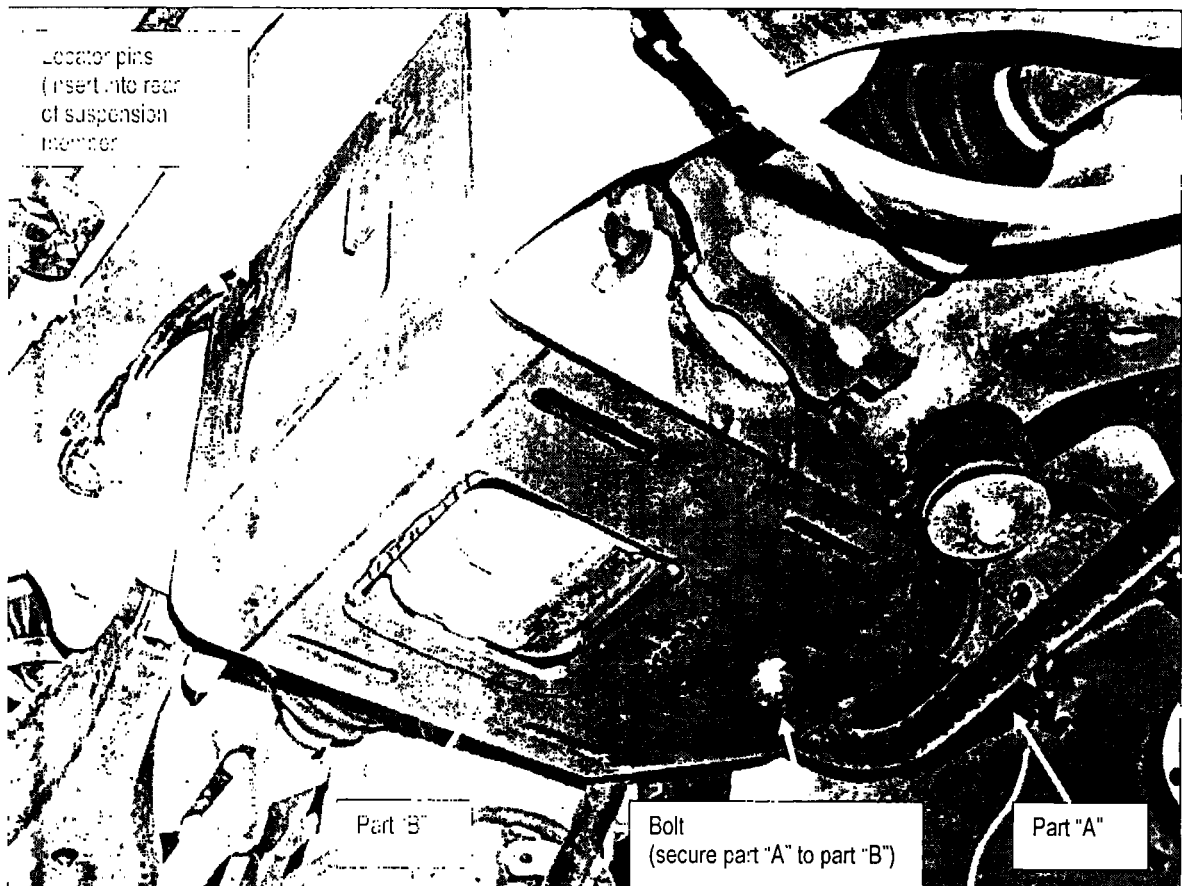

Figure 25
- b. Slide part "B" of the adapter tool over the rear of part "A". Then, insert the locator pins at the upper corners of the tool into the rear suspension member (see Figure 25).
- c. Install and tighten the bolt that holds "part A" to "part B" as shown in Figure 25.